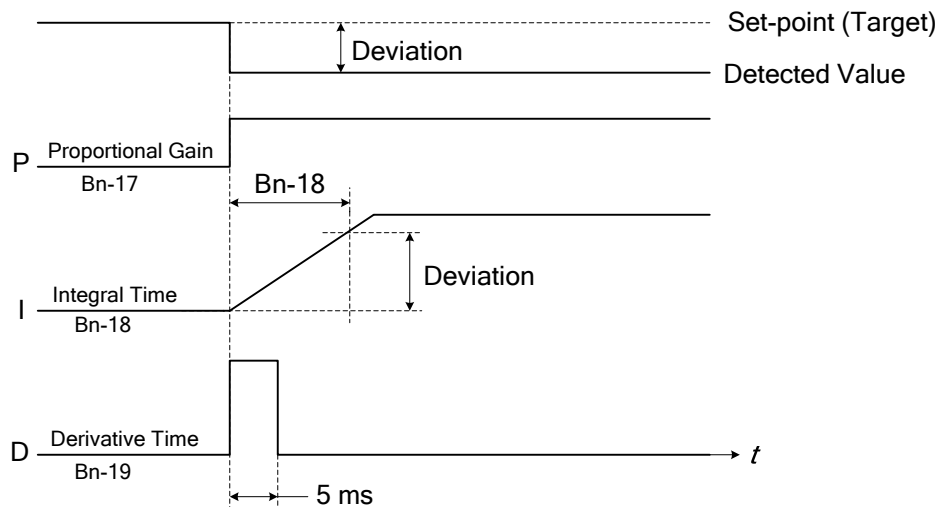

Fig. 1.3.2 Response of PID Function with Step Input
- Fig.1.3.2 below shows the response of the PID function with a step input.